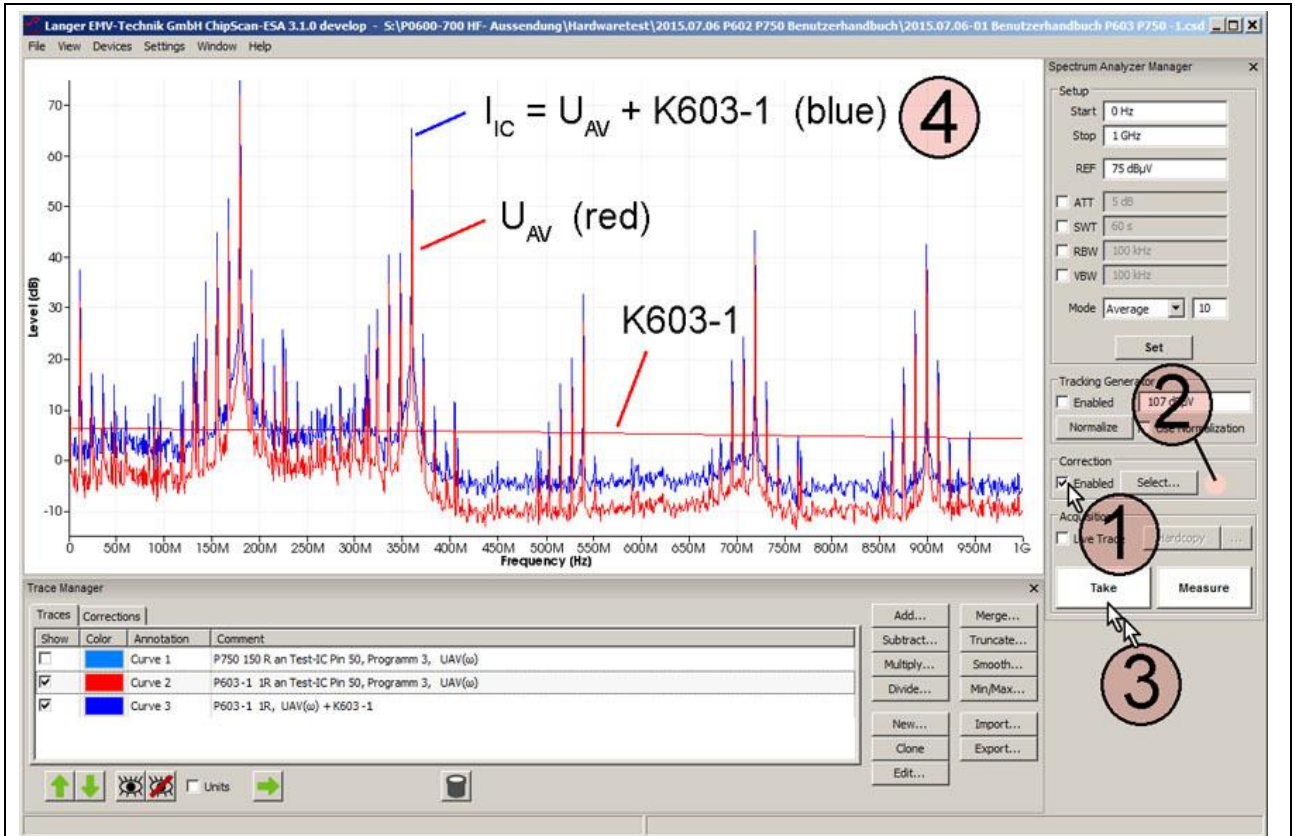

Figure 30: Measurement with the P603-1 RF current probe head using the correction curve K603-1.
The correction curve K603-1 is loaded to the Corrections Selector if the **P603-1** probe is used for the measurement. Activate the "Enabled" box in the Correction area of the Spectrum Analyzer Manager with the mouse cursor ① (**Figure 30**). The field ② flashes if the correction is active **Figure 30**. Click "Take" or "Measure" (mouse cursor ③ **Figure 30**) to transfer the current measurement curve ④  $I_{IC}(\omega)$  from the spectrum analyzer to the PC.